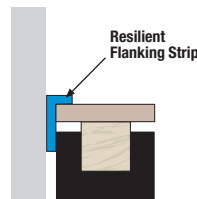

FIG. 7
- A 5-10mm gap between the edge of the chipboard and the perimeter wall must be maintained. After the chipboard has been laid throughout the room insert the Resilient Flanking Strip into the 5-10mm gap. Ensure that this flanking strip is continuous around the perimeter. Fig. 7